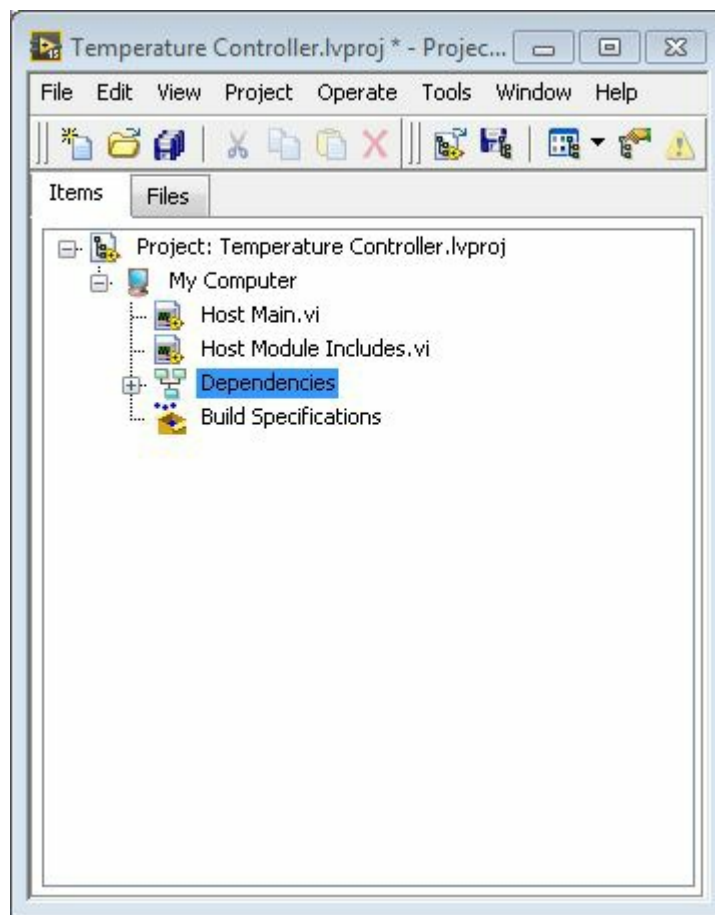

Figure 1.2
4. Verify your project window matches Figure 1.2.